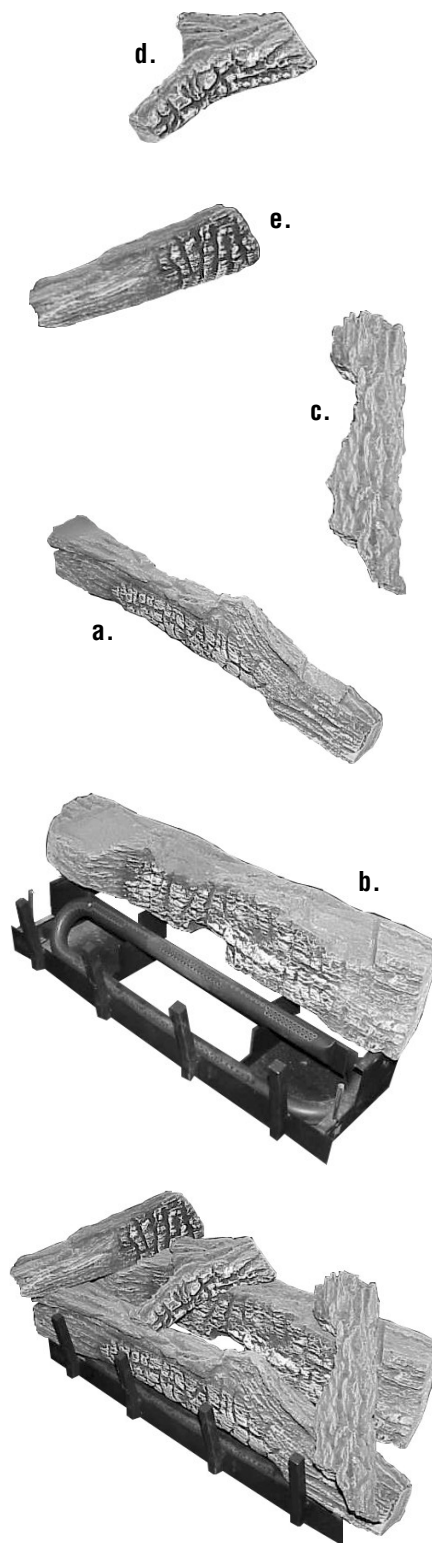

Figure 9
Step 1. Carefully position the ceramic fiber logs and twigs over the burner as shown in *Figures 9 and 10*. Place the front log over two pins located at either side of the front log platform area, charred side forward. Position the rear log over its pins in a similar fashion.